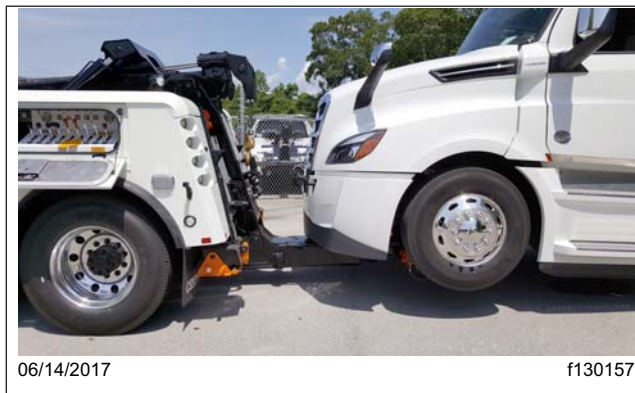

Fig. 26.14, Final Towing Position
15. Use the stinger to pull the truck close to the back of the tow truck for final towing position. See **Fig. 26.14**.